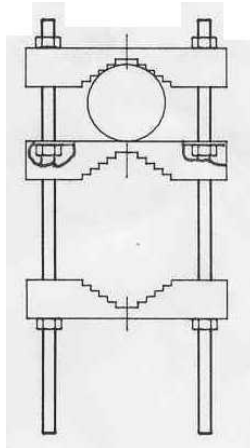

Figure 4: Top View of Bracket with Three Tube Grips
3. Loosely fit a third tube grip, nuts and washers over the extended studding in the two positions shown in Figure 4. Check there is sufficient room to accommodate the size of mounting pole being used. If it is not possible to lower the antenna over the mounting pole the third tube grip can be fixed on one stud only and swung round the pole as the antenna is offered up to it.